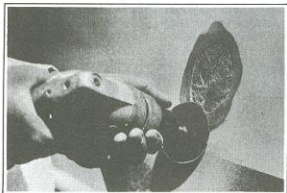

Figure 2-85. Rough Sanding Outside Surface
8. After the patch is cured, remove the cardboard from the outside of the hole and rough sand outside surface, feathering the edge of the hole. See Figure 2-85.